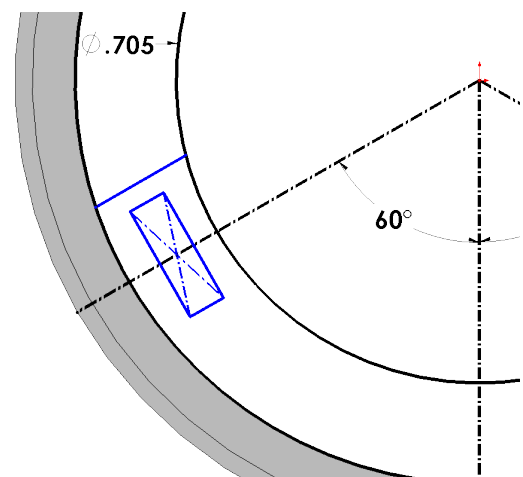

Fig. 18
Step 16. Sketch small narrow rectangle at angled centerline, **Fig. 18**. To sketch rectangle, click angled centerline to place rectangle's center point. Bring cursor out sort of perpendicular from centerline and click. Then, click move cursor slightly to side and click.